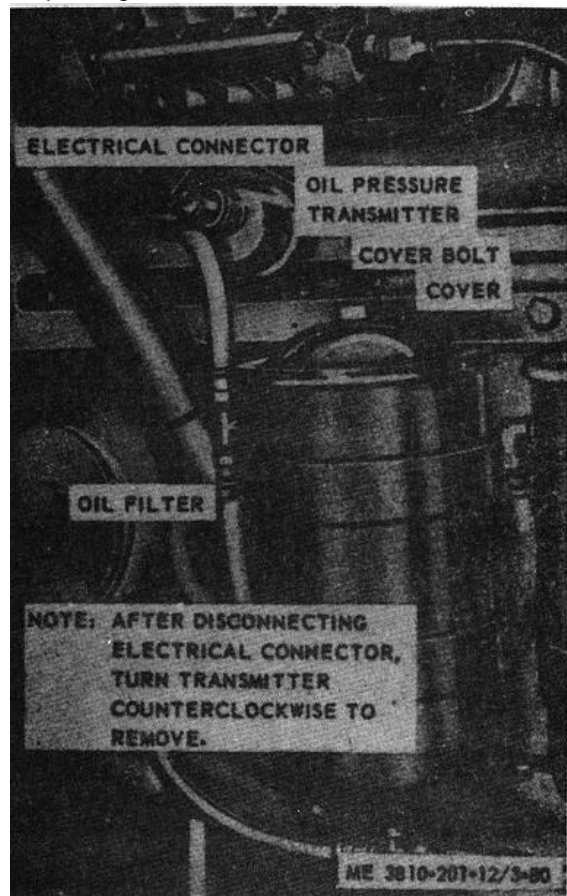

Figure 3-67. Lubricating oil pressure transmitter, removal and installation
(1) Refer to figure 3-67 and remove lubricating oil pressure transmitter from engine model 687C-18ES. Install in reverse order.
(2) Remove lubricating oil pressure transmitter from engine model D333TA in a manner similar to that given in (1) above.